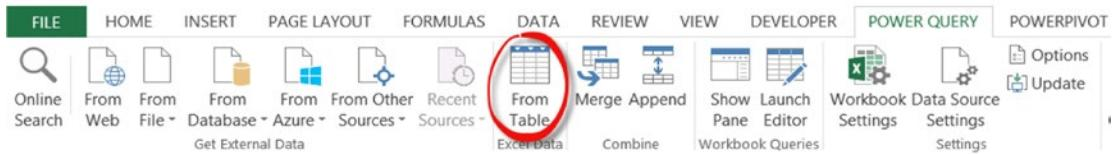

Figure 23-2. Adding Excel table data to Power Query
3. Go to the Power Query tab and choose the From Table option (see Figure 23-2).